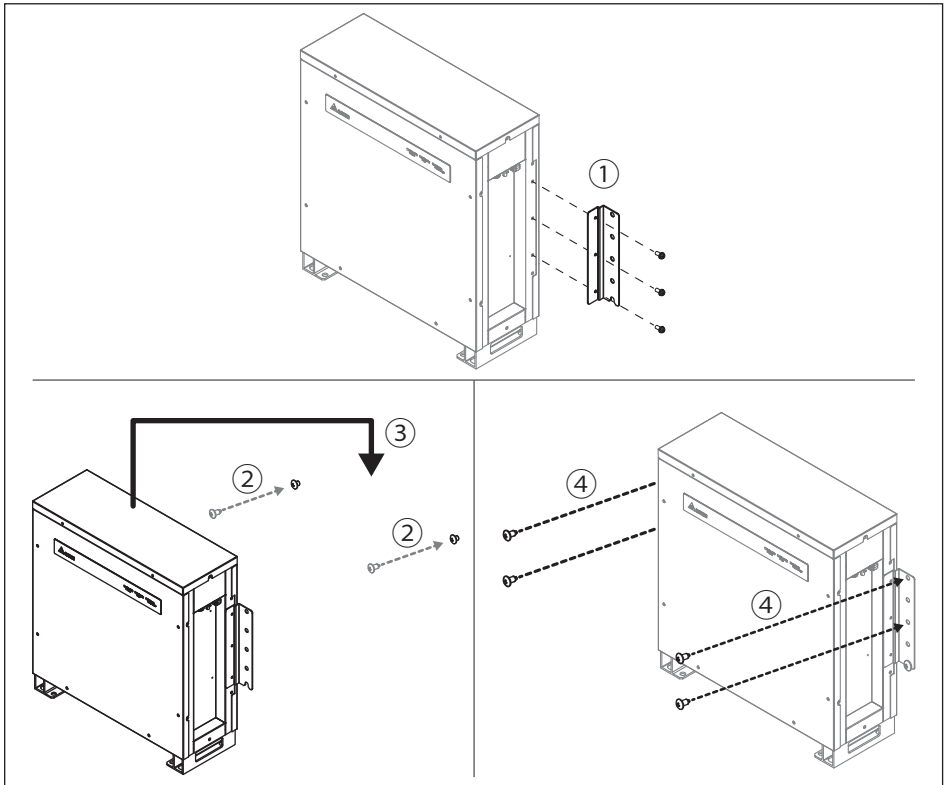

Figure 3-5(a) : The procedure for attaching the battery pack on the wall
4. Use screws in order to fix rest of the holes as shown in **Figure 3-5(a)**.